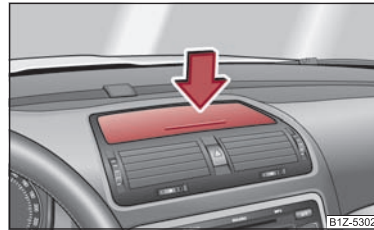

Fig. 91 Dash panel: Storage compartment
- Press in the middle of the storage compartment ⇒ fig. 91 - the lid folds open